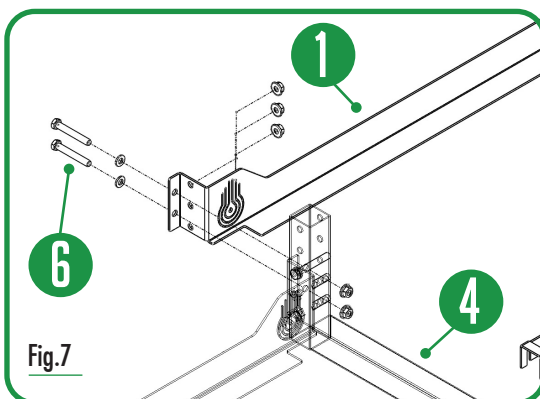

Fig.7
- 2.3 Fasten with two screws the free edge of the side board (1) to the free edge of the welded crossbar (4) previously assembled in the start frame (step1) as shown in fig.7